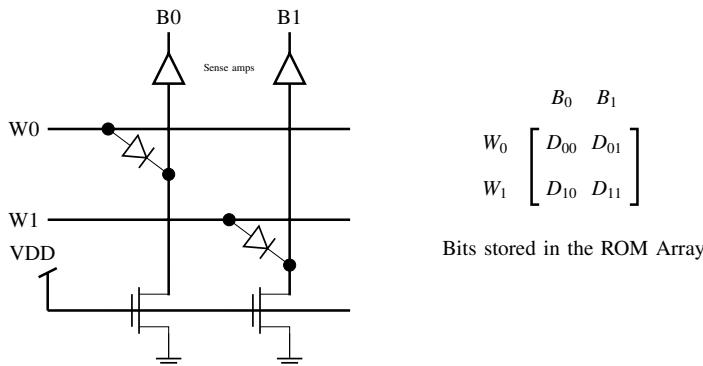

Fig. 3.15:  $2 \times 2$  ROM array
29. A  $2 \times 2$  ROM array is built with the help of diodes as shown in the circuit below in Fig. 3.15. Here  $W_0$  and  $W_1$  are signals that select the word lines and  $B_0$  and  $B_1$  are signals that are output of the sense amps based on the stored data corresponding to the bit lines during the read operation.